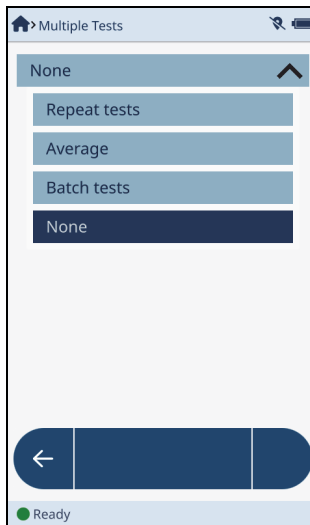

Figure 2-3 Selecting the Repeat Tests option
2. If **None** is highlighted, tap to reveal the **Multiple Tests** menu (see Figure 2-3 on page 26).